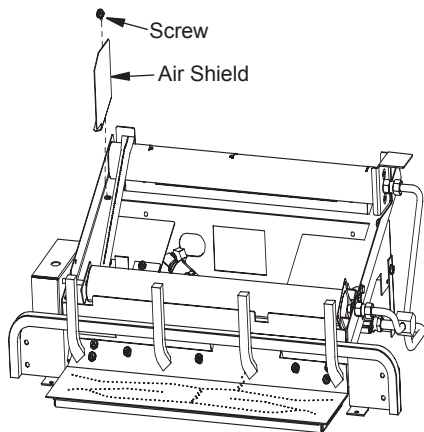

Figure 37 - Removing Air Shield
- Before placing any logs on the chassis you will need to remove the Air Shield located on the left side near the rear burner as shown in Figure 37. The Air Shield is held in place with one screw, remove the Air Shield and place the screw back into the hole in the chassis. Place the Air Shield with you owner's manual and keep.